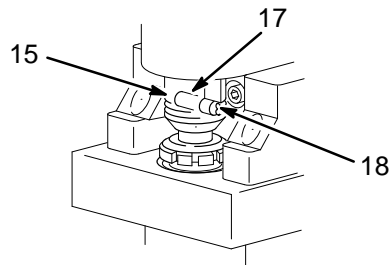

Fig. 24
2. Try to stop the pump with the piston rod (107) in its lowest position. To lower the piston rod manually, rotate the motor fan blades. Use a screwdriver to push the retaining spring (18) up and push out the pin (17). See Fig. 24.